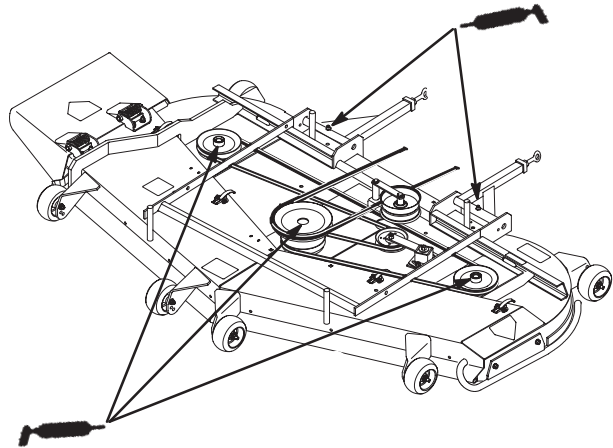

Figure 32
2. Grease the fittings on the three spindle bearings until grease comes out lower seals (Fig. 32).
3. Grease the fittings on the push arms(Fig. 32).